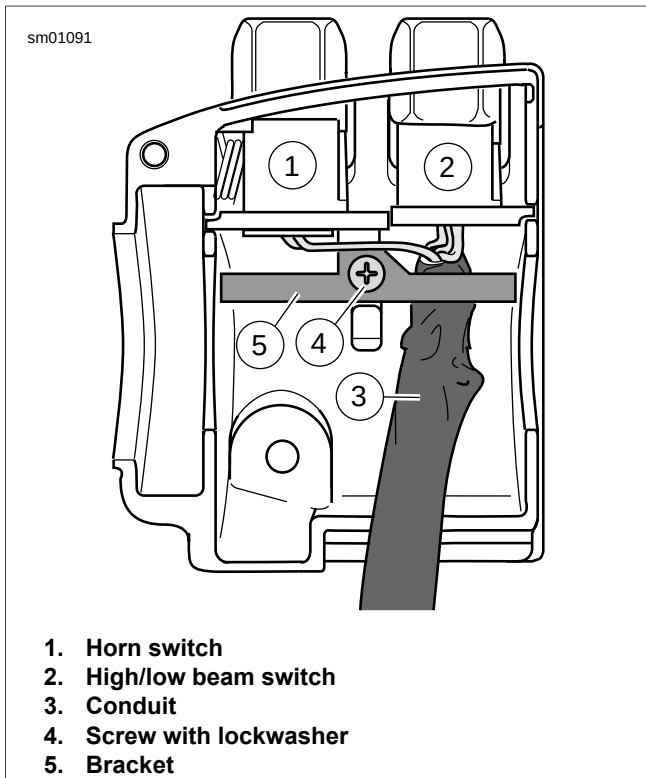
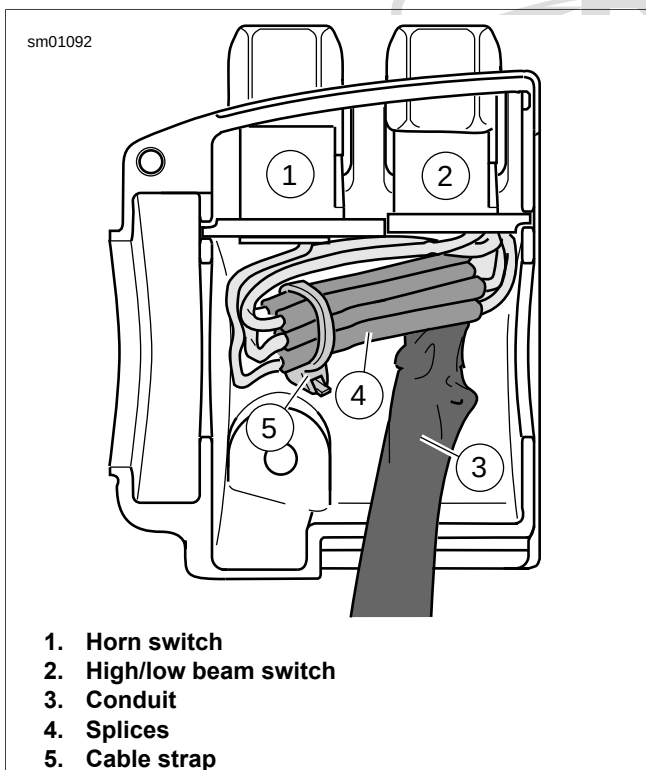

Figure 7-64. Upper Housing Without Splices
Figure 7-65. Upper Housing With Splices
1. See Figure 7-64. From inside the switch housing, remove the screw with lockwasher (4) to release the bracket (5). Remove bracket and switch assembly from the housing.
2. Move cable conduit (3) from beneath wing of bracket. Cut wires 6.4 mm (0.25 in) from old switches (1, 2). Discard old switch and bracket assembly.
3. Slide conduit forward over cut ends of switch wires and cut off 12.7 mm (0.5 in) of conduit (3) material. Push conduit back to access switch wires.
4. Separate the **new** horn switch (1) and high/low beam switch (2) wires into two bundles.
6. See Figure 7-65. Loop switch wires.
7. See Figure 7-64. Route wires downstream of splices beneath wing on high/low beam switch side of bracket.
8. See Figure 7-65. Install a **new** 177.8 mm (7.0 in) cable strap (5) beneath wing on horn switch side (1) of bracket and capture wire splices (4).
10. See Figure 7-64. Install screw and lockwasher (4) to secure bracket (5) inside housing. Verify that wing on high/low switch (2) side of bracket captures edge of conduit (3) as shown.